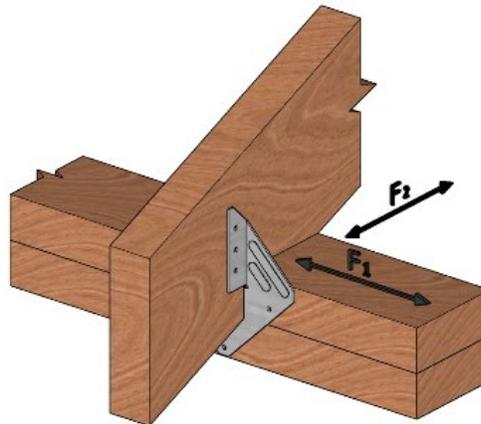

Figure 1. Roof to Wall Connections
- a. Metal connectors connecting roof structure to exterior wall system at all wall-to-roof framing connections (trusses and rafters) sized to meet the load requirements of Table F2 as shown in Figure 1.
3.  $F_2$  load direction is perpendicular to the wall (Refer to Figure 1).
4.  $F_1$  load direction is parallel to the wall (Refer to Figure 1).